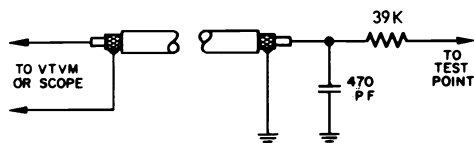

Figure 17 - VHF Decoupling Network.
**Oscilloscope and VTVM** — Use a low-capacitance direct probe terminated with the decoupling network shown in Figure 17. Keep the oscilloscope calibrated for 1 volt peak to peak (P-P). Use a VTVM range suitable for measuring — 1.5 volts.